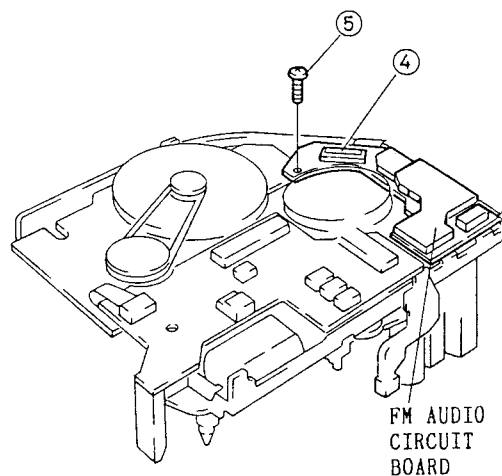
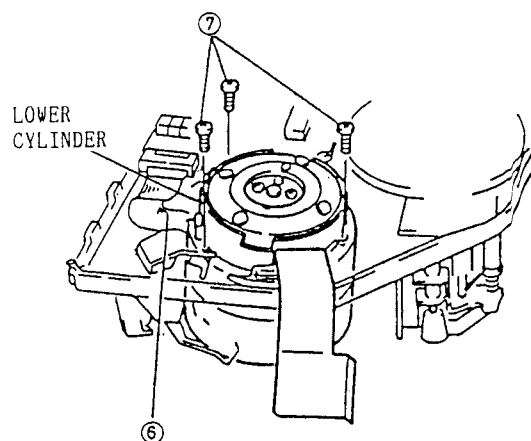

Fig. 2-55-1
Fig. 2-55-2
4. Disconnect one (1) flat cable (CN001) on the FM audio circuit board. (See Fig. 2-55-1)
5. Remove one (1) screw holding the FM audio circuit board.
6. Disconnect flat cable CN552. (See Fig. 2-55-2)
7. Remove three (3) screws holding the lower cylinder.